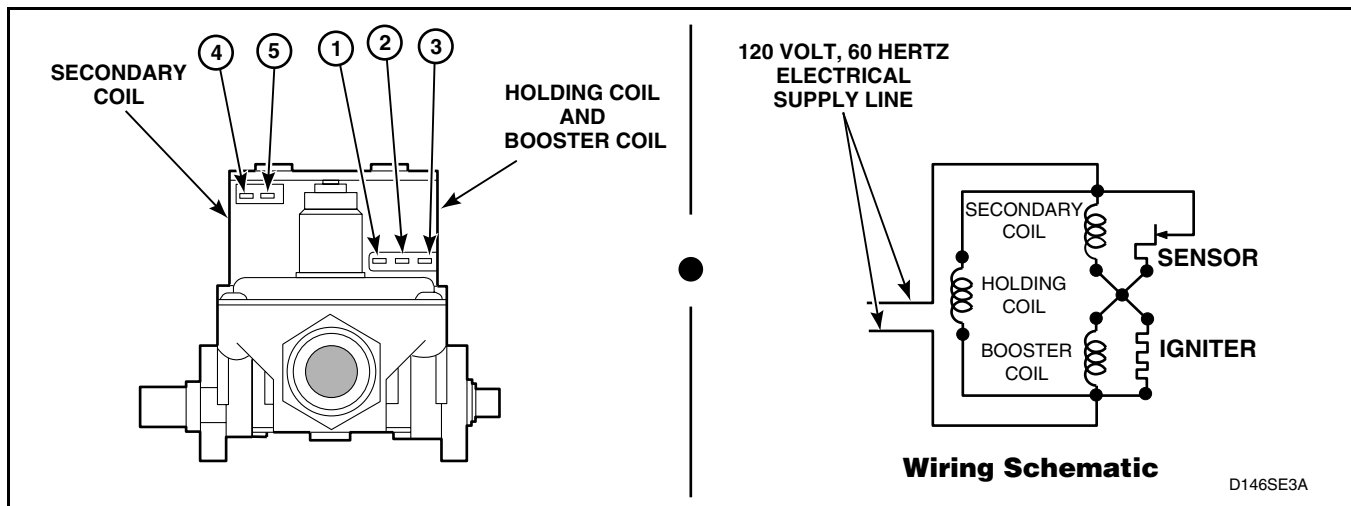

Figure 15
Refer to *Figure 15*
1. Remove valve wire harness disconnect block from the holding and booster coil. Refer to *Figure 15*.
3. Set test meter to read AC voltage and apply meter probes into terminals on the dryer harness that would correspond to terminals "1" and "2" on the coil. Refer to *Figure 15*. Meter should register line voltage in all Fabric settings, except FLUFF which should read "zero" VAC.
1. Remove disconnect blocks from gas valve coils. Refer to *Figure 15*.